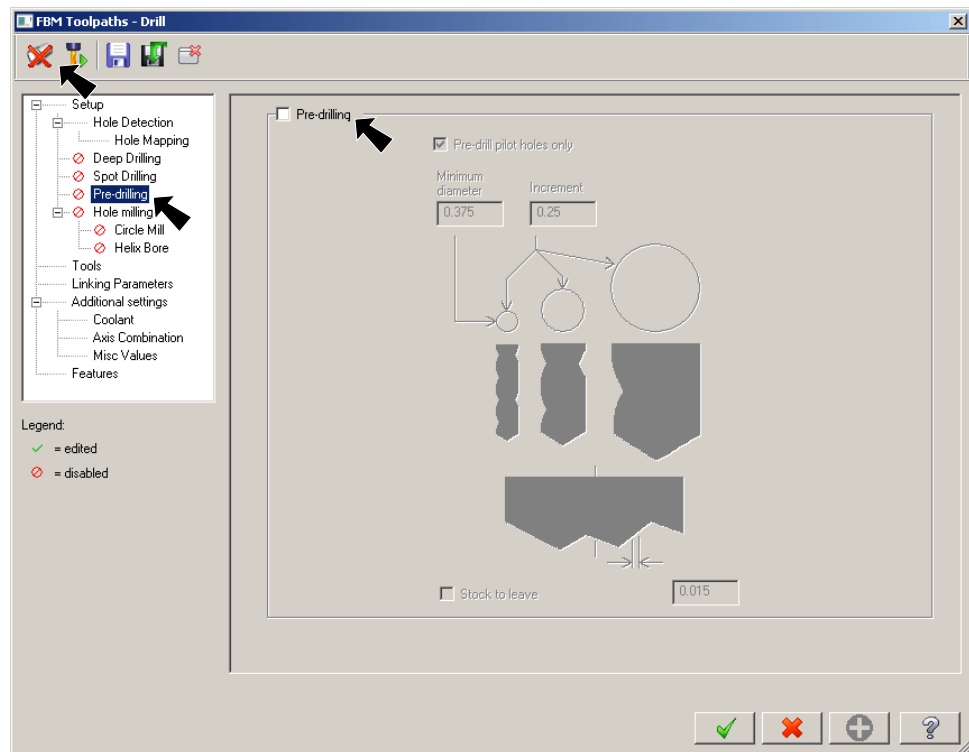

Fig. 87
Step 5. Select **Pre-drilling** from the tree control and uncheck **Pre-drilling** check box, **Fig. 87**.
Step 6. Click **Detect** button  at the top of the dialog box to find the holes, **Fig. 87**.